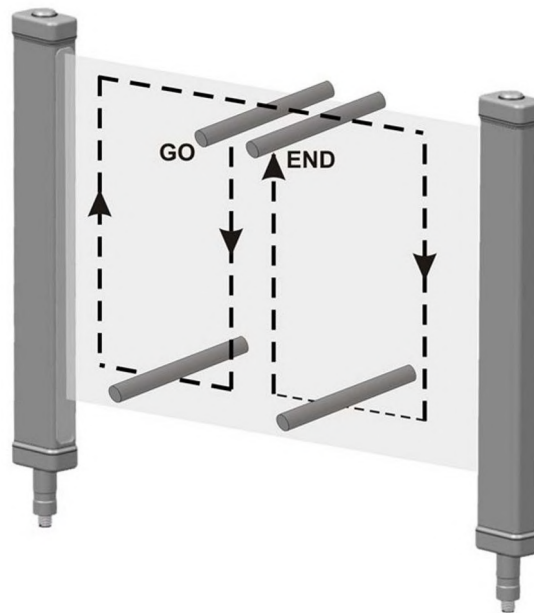

Fig 18 - Path of the test piece
- ESPE remains blocked (➡) intercepting the beams along the protected area using the specific test piece, following the **Fig 18 - page 21** scheme.